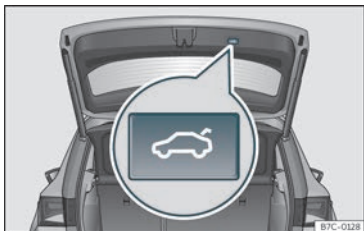

Fig. 83 Rear lid: button to close the rear lid.
- To close: hold one of the handles on the inner trim and close it by moving it downwards, or press the button on the rear lid* »» Fig. 83.
- Briefly press the  button on the rear lid »» Fig. 83 »»  in Introduction on page 103.
Throughout the process of opening or closing the rear lid, acoustic warnings can be heard. Exception: when the rear lid is opened manually using the handle or the Easy Open function with the movement of the foot or closed using the button on the rear lid itself»» Fig. 83.
- Press the  button»» Fig. 83 on the rear lid for at least 3 seconds.